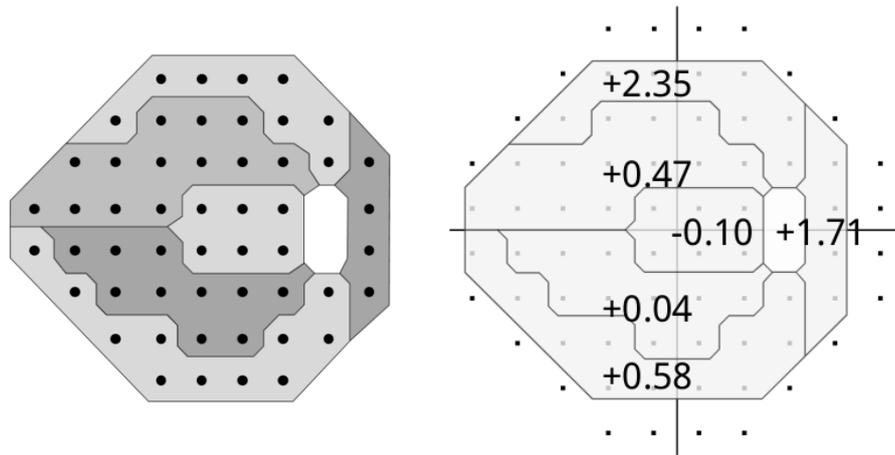

Fig. 65 – Stimuli of the 24-2 pattern (left) and 30-2 pattern (right) grouped in clusters¹⁶
6. Mean Deviation (MD), Pattern Standard Deviation (PSD) and Fundus Perimetry Deviation (FPDI) indices, plus information if the Tracking and CC were enabled during the exam
7. Cluster MDs (dB) (see clusters identification in Fig. 65);
- the cluster analysis (7) displays the Cluster MDs only for the subset of locations that are in common with the 24-2 grid (see Fig. 65).